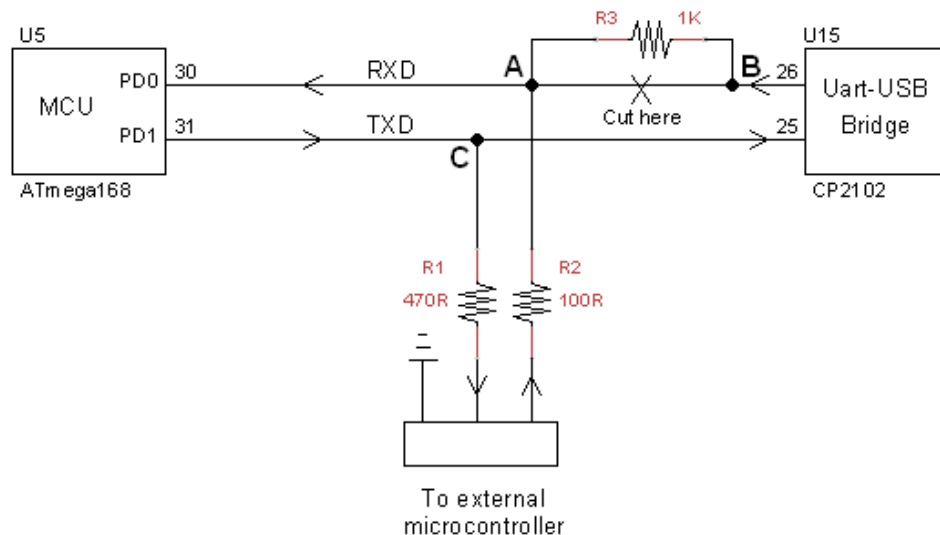
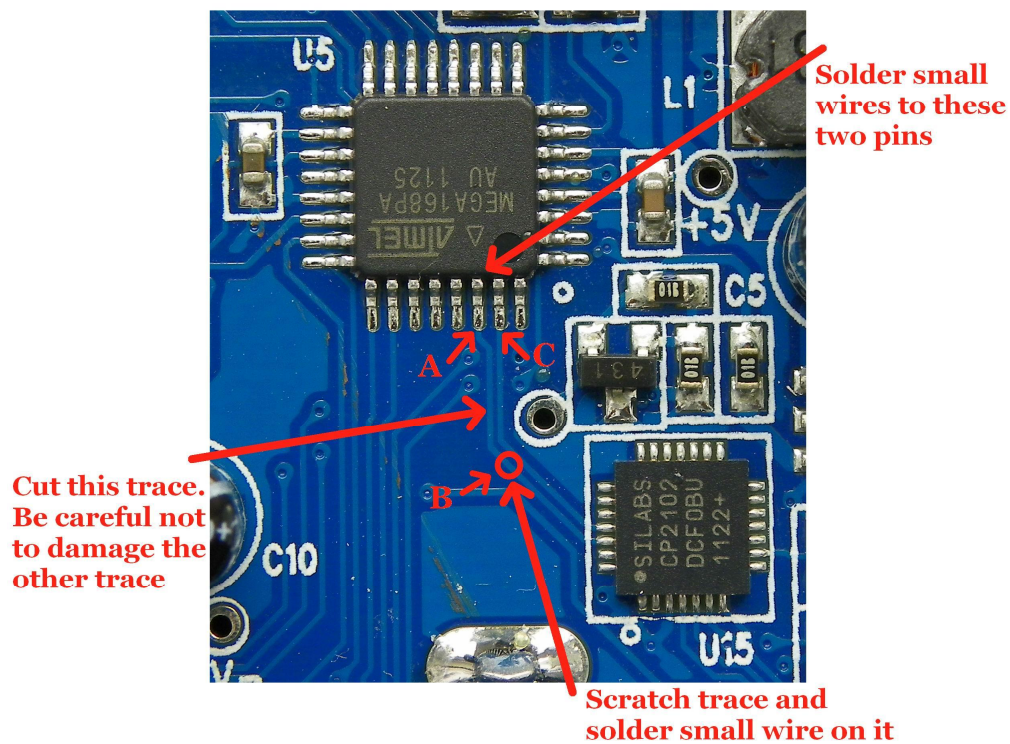

Fig. 1
Fig. 2
If you want to control FG085 from a microcontroller you are probably want to send the signal directly in TTL level. In this case you need to modify hardware to make the connection because the existing design does not provide a dedicated TTL-level serial port. Suggested modification is shown in the schematic of Fig. 1. Fig. 2 shows the board area of modification.
- 1) Cut the trace carefully as illustrated in Fig. 2. Pay great attention not to damage the